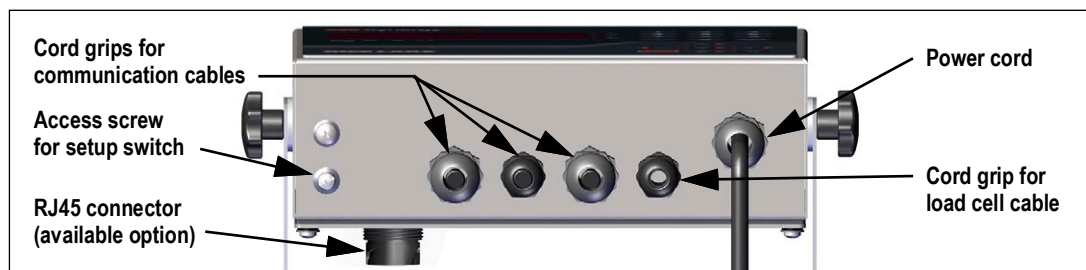

Figure 2-5. Recommended Cord Grip Assignments
The 680 provides five cord grips at the bottom of the enclosure for cabling into the indicator. One of the cord grips is used for the power supply and the other four are used to accommodate the load cell cable and the serial, digital inputs and outputs, Ethernet, micro USB or the optional analog output communications cables. A version of the 680 with an external RJ45 connector and cap is available. Cable plugs are included in the parts kit and must be installed in open cord grips to prevent moisture from entering the enclosure. Use the attached cap to seal the optional RJ45 connector when not in use. See the following sections to install cables as required for the application. The recommended cable strip length is 0.25" (7 mm) for all 680 connectors. See Figure 2-5 for the recommended assignments for the 680 cord grips.
1. Insert a 3-wire power cable (not included) into the enclosure through the power cable cord grip (Figure 2-5 on page 13).